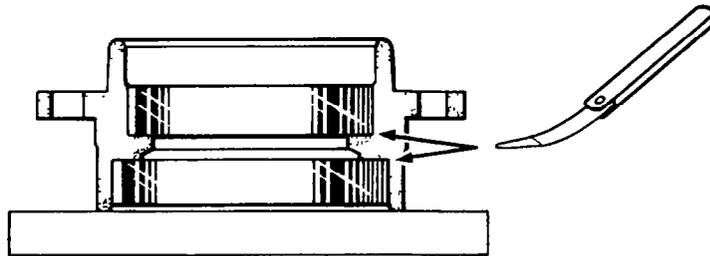

Fig. 354 — Checking Correct Seating of Bearing Cups
- c. Press the bearing cups (item 38) into the pinion cage (item 40) ensuring that they are correctly seated. Check seating with a 0.025 mm (0.001 in.) feeler gauge as shown in fig. 354.